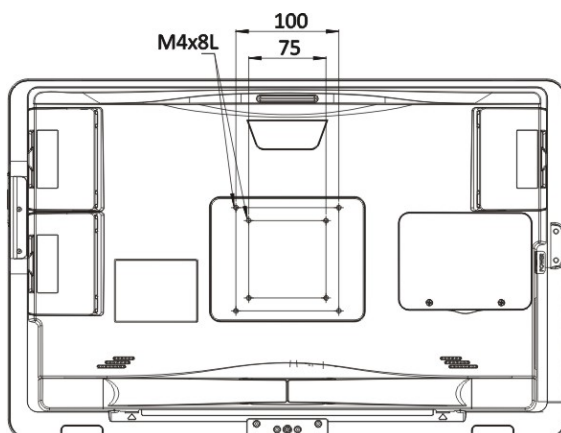

Figure 3-32: Arm Mounting Retention Screw Holes
Step 3: Align the retention screw holes on the mounting arm interface with those in the panel PC (**Figure 3-32**).
- Step 1:** Locate the VESA mount screw holes on the rear of the POCm-W22/24C-ULT3 (Figure 3-32). This is where the bracket will be attached.